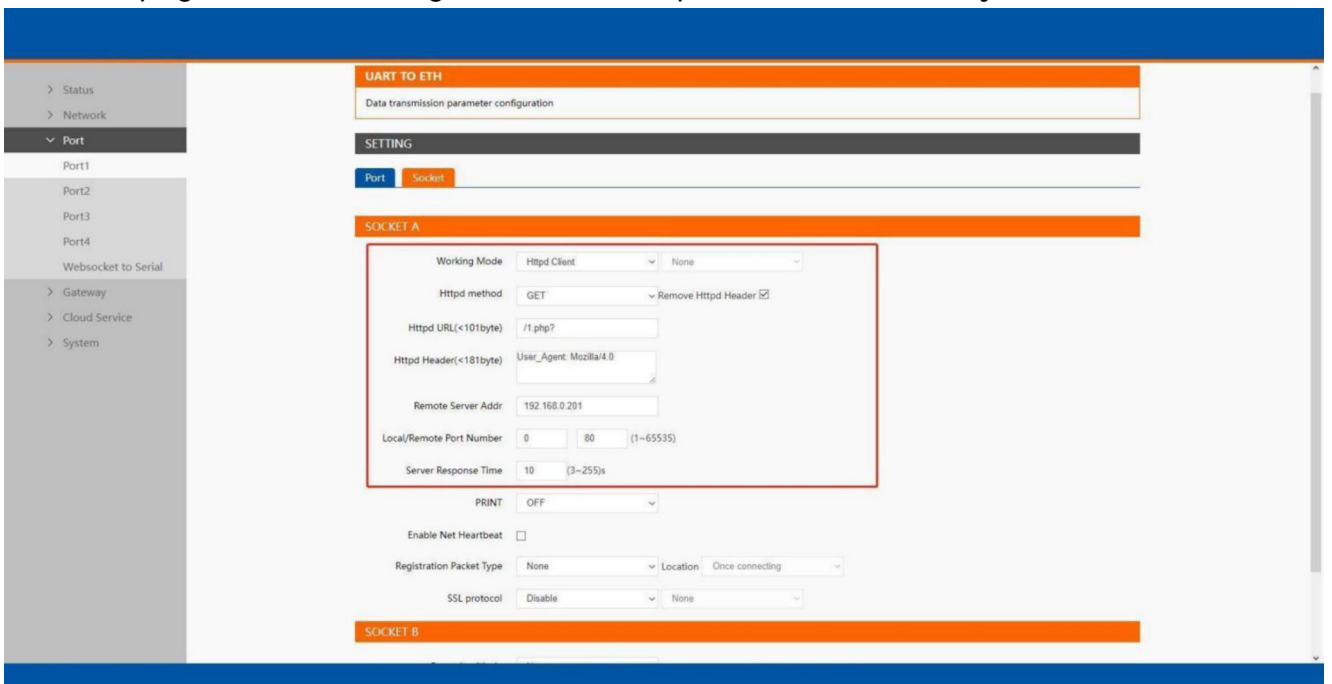

Fig.46 HTTP client mode
Fig.46 shows an example of configuration setting for HTTP Client working mode under the Port1 socket page. You can configure other serial ports in the same way.
1. Click on the "Port1" tab on the menu frame on the left side of Web UI to go to Port1 page as shown in Fig.46.